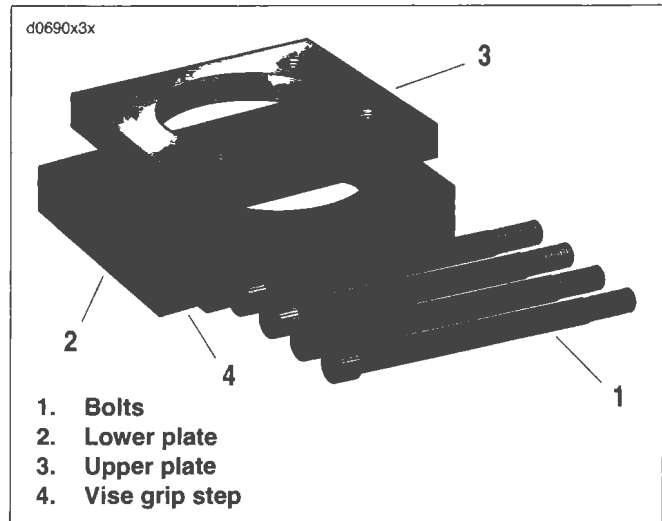

Figure 3-114. Cylinder Torque Plates
6. See Figure 3-114. Check the machined surfaces for flatness using a feeler gauge and CYLINDER TORQUE PLATES (Part No. HD-42324-A) as follows:
- a. Lay gasket side of the upper torque plate (3) (without vise grip step) flat against the head gasket surface of the cylinder.